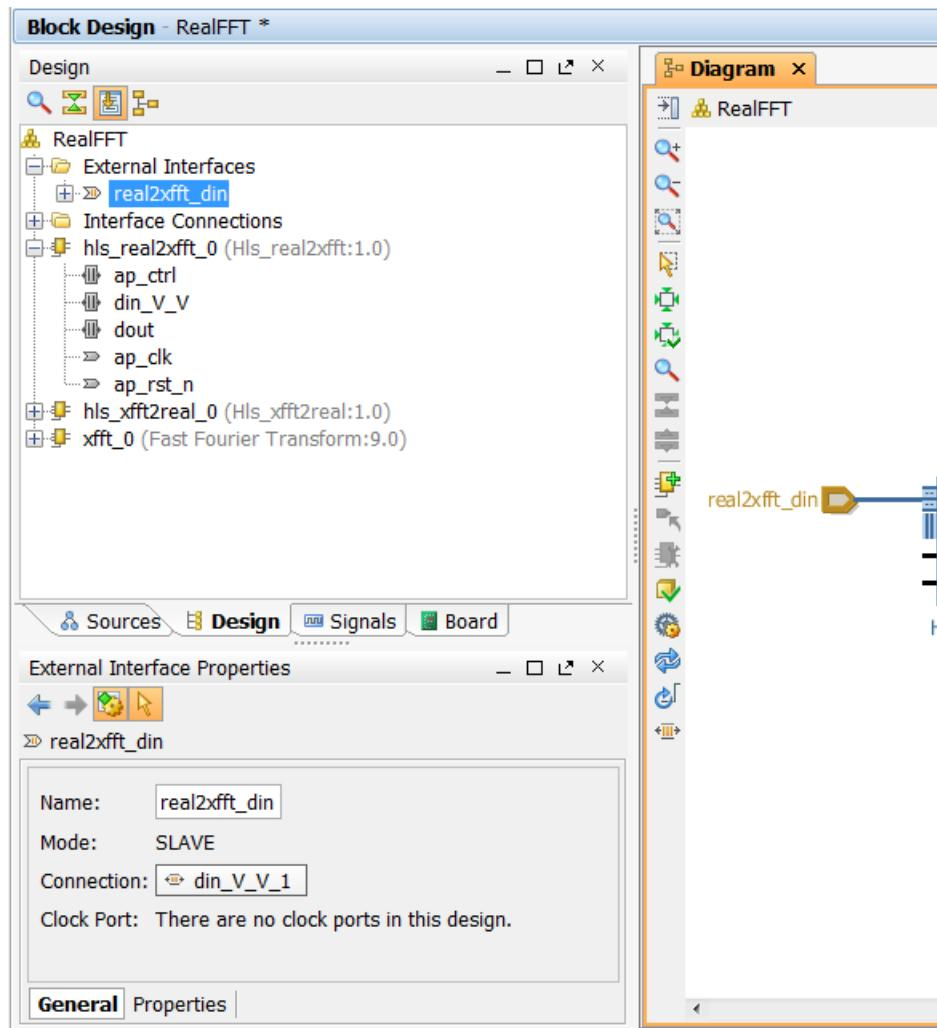

Figure 9-19: Port Naming
- b. In the External Interface Properties pane (Figure 9-19), click in the Name text entry box to highlight `din_V_V`.